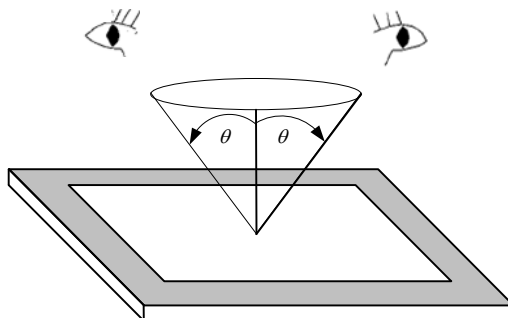

Fig. 12.1
- The viewing zone is defined with angle  $\theta$  shown in Fig.12.1 The inspection should be performed within  $45^\circ$  when display is shut down. The inspection should be performed within  $5^\circ$  when display is power on.